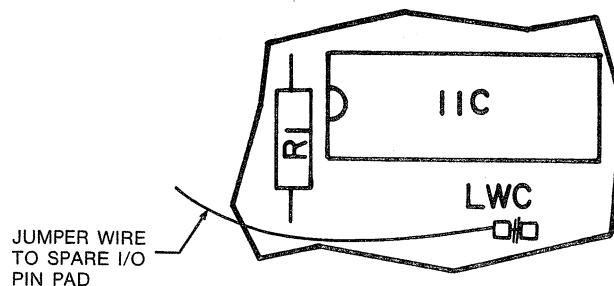

FIGURE 3-19. WRITE CURRENT
2. Add jumper wire from LWC pad as shown in Figure 3-19 to one of the unused spare I/O pin pads.